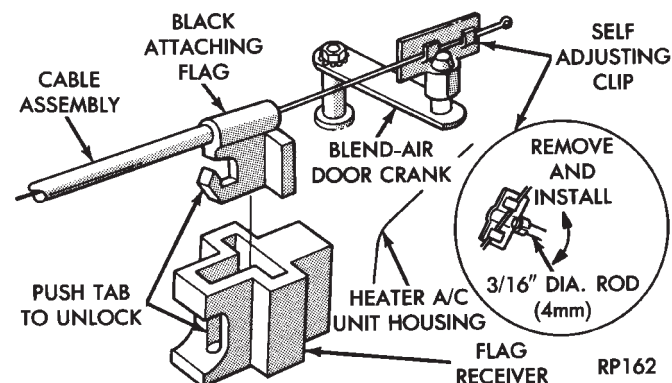

Fig. 1 Temperature Control Cable—Typical
(1) Remove the A/C-Heater control panel assembly. Refer to A/C-Heater Control Replacement in Group 8E Instrument Panel. Disconnect the cable attaching flag from the A/C-heater control and remove the cable from control panel.
(2) Locate and disconnect the cable attaching flag on the bottom of the A/C-heater housing behind the floor air duct (Fig. 1).
(10) Slip the cable self-adjusting clip from the blend-air door crank (Fig. 1).
(11) Remove the cable from the vehicle.
(12) To remove the self-adjusting clip from cable (Fig. 1):